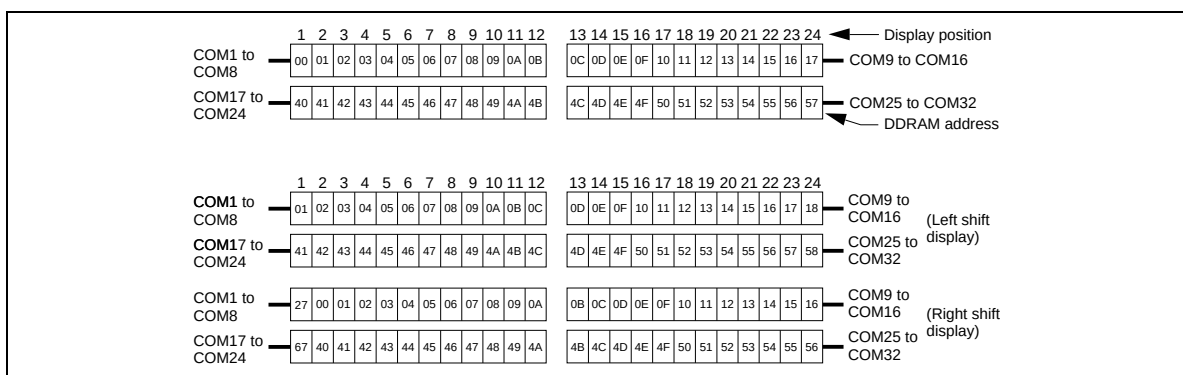

Figure 5 2-Line by 24-Character Display (5-Dot Font Width)
- Case 1: The first line is displayed from COM1 to COM16, and the second line is displayed from COM17 to COM32. Note that the last address of the first line and the first address of the second line are not consecutive. Figure 5 shows an example where a 5-dot font-width 24 × 2-line display is performed using one HD66712. Here, COM9 to COM16 begins at (0C)H, and COM25 to COM32 at (4C)H. When a display shift is performed, the DDRAM addresses shift as shown. Figure 6 shows an example where a 6-dot font-width 20 × 2-line display is performed using one HD66712. COM9 to COM16 begins at (0A)H, and COM25 to COM32 at (4A)H.